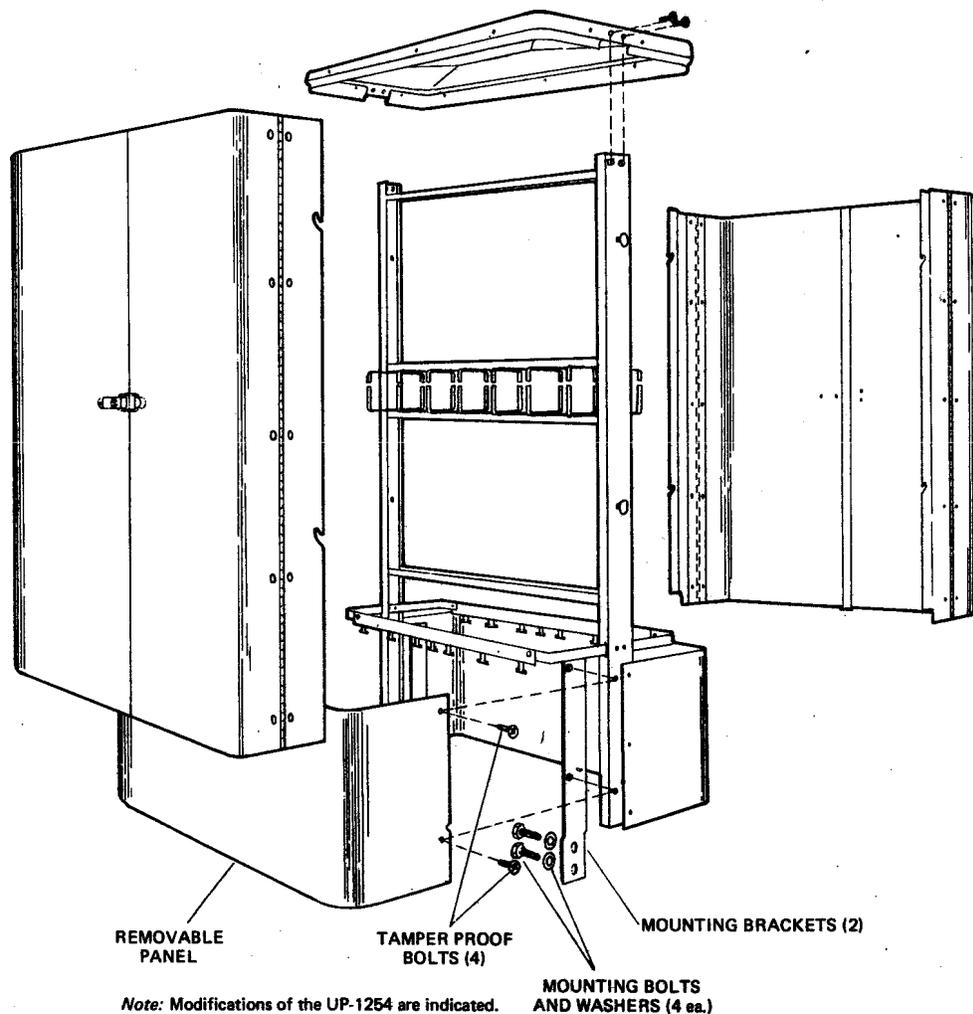

Fig. 29
1.005 Exploded view of the UP-1252 in Fig. 29 shows the modifications.